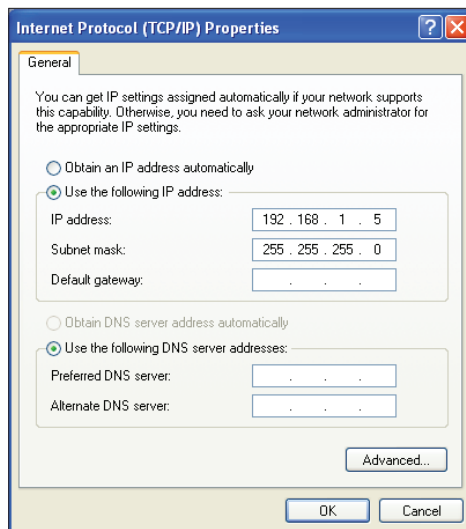

Figure 8: Internet Protocol Properties Window
- 6.) Select the radio button in front of **Use the following IP address (Figure 8)** and write down the current defaults so that you can re-enter them when you finish configuring the PT-Link and then type in the following information:
- 6.) Choose **Internet Protocol Version 4 (TCP/IPv4)** by highlighting it and then click **<Properties>**. The *Internet Protocol Properties Window* will appear (**Figure 8**).
- 7.) Select the radio button in front of **Use the following IP address (Figure 8)** and write down the current defaults so that you can re-enter them when you finish configuring the PT-Link and then type in the following information: